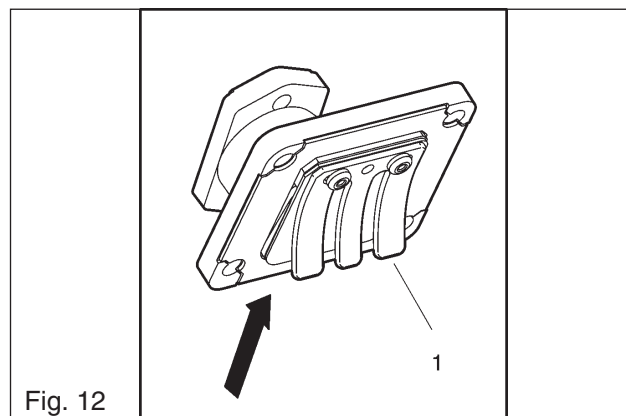

Fig. 12
Unhook the throttle cable from the carburettor cable wheel and lift off the carburettor from the diaphragm valve (11) housing and the diaphragm for wear, see Fig. 12, and replace if necessary.